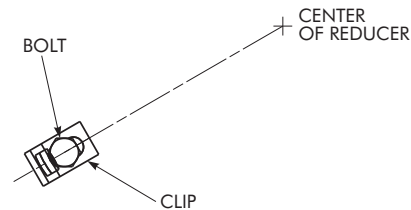

FIGURE 12
- b. Align shroud clip with center of reducer and tighten bolts to torque requirements of Table 2; reference Figure 12.